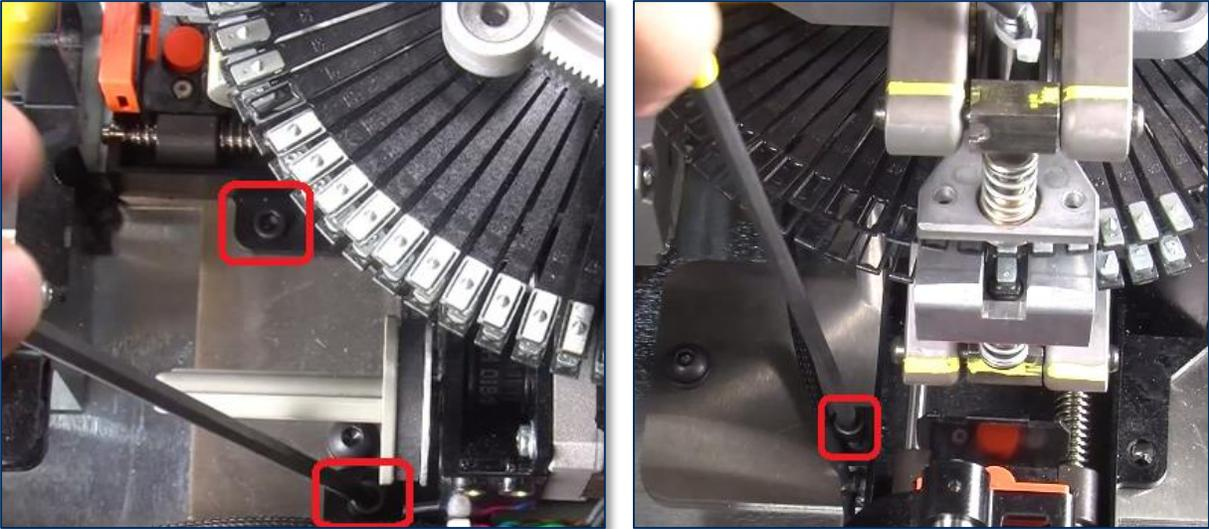

Figure 3-4 - Unfastening Rear Indent Module (TOP VIEW FROM LEFT and TOP VIEW FROM REAR)
- 5) Use the 5/32" ball-end Allen wrench to remove the three screws that attach the rear indent module to the embosser. The left image in **Figure 3-4** shows two screws as seen from the left side of the device, and the right image shows the final screw as seen from the rear of the device.